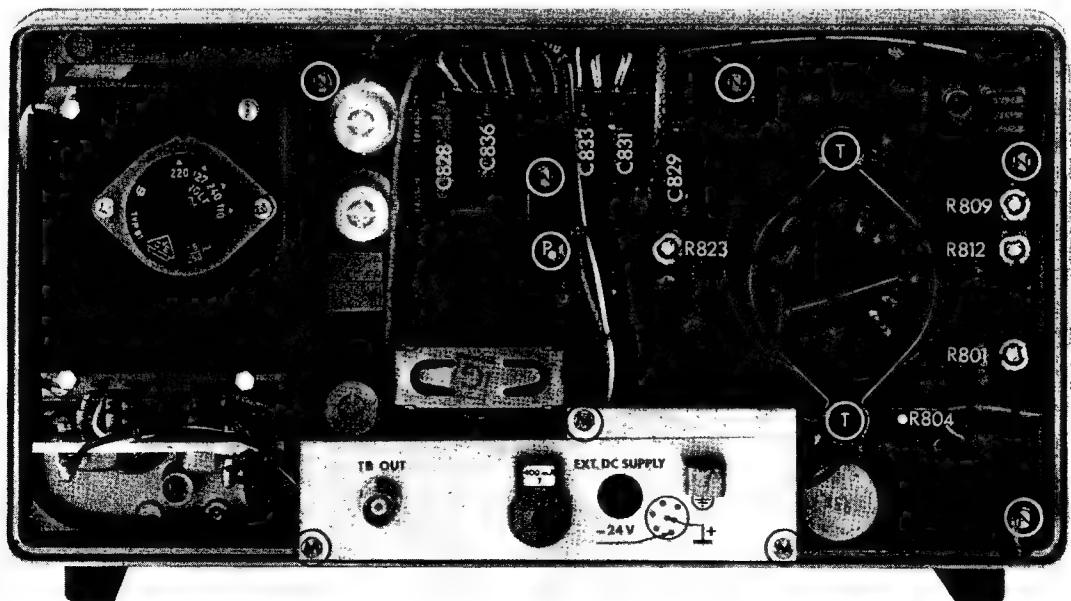

Fig. 3.15. Adjusting and dismantling
- Check that the voltage across capacitor C833 is +12 V, + or -20 mV; if necessary, readjust potentiometer R823 (Fig. 3.15.).
- Set potentiometer R801 (Fig. 3.15.) to its mid-position and potentiometer R553 (Fig. 3.17.) anti-clockwise.
- Check that both traces are equally bright. If necessary, turn screw T (Fig. 2.1.) or rotate magnet T (Fig. 3.15) until both traces have the same brightness.
- Adjust FOCUS potentiometer R9 and astigmatism potentiometer R809 (Fig. 3.15.) for sharp, well-defined traces. Find the setting that gives the best result for both channels.
- Set FOCUS potentiometer R9 in mid-stroke position and check for sharp traces. If necessary select a different value for R804 (Fig. 3.15.).
A small deviation may occur. If necessary, adjust and determine an average setting with the aid of potentiometer R812 (Fig. 3.15.).
- The spots must be barely visible; if necessary, readjust potentiometer R801 (Fig. 3.15.).